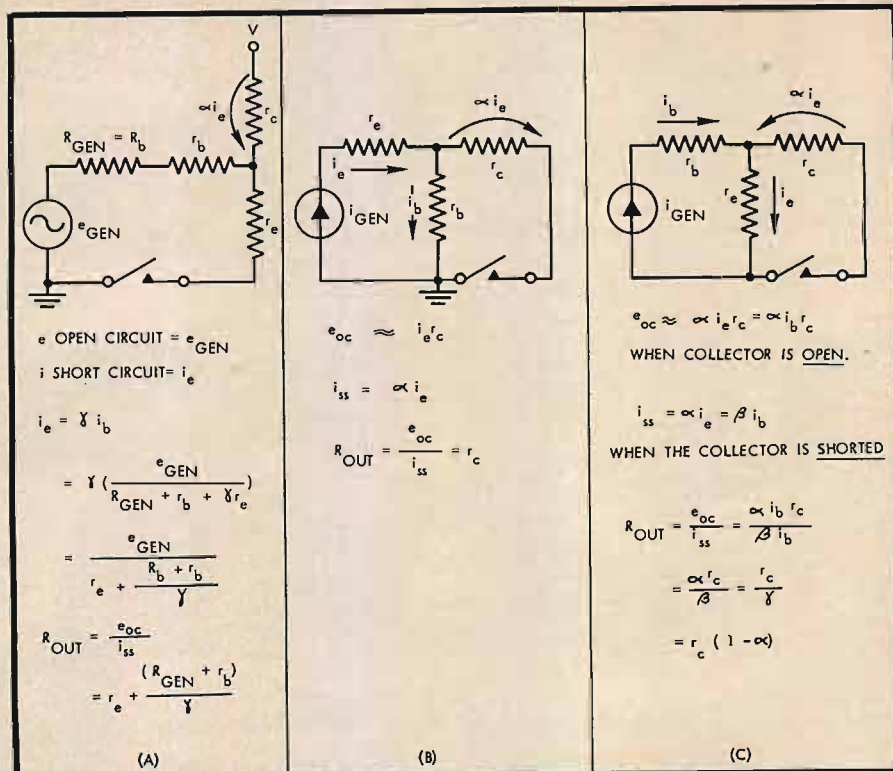

Fig. 5. Output impedances by the open-circuit short-circuit method: (A) emitter follower, (B) grounded base, (C) grounded emitter.
If we try this idea on the emitter-follower circuit, we can get a check on its validity. We already know the impedance looking into the emitter; the output impedance should be the same. Consider the circuit of (A) in Fig. 5. If we open the emitter, the voltage at the base is e_{gen} . If we short the emitter, the current is $i_e = \gamma i_b$. Further, $i_b = e_{gen}$ divided by $(R_b + r_b + \gamma r_e)$. R_{out} must be, therefore, $\frac{R_b + r_b}{\gamma} + r_e$. This checks with our
Now we can attack the collector impedance. This is the most difficult of the lot, but the open-circuit short-circuit method provides an excellent approximation. There are two configurations: grounded base, with the signal inserted at the emitter, and grounded emitter with the signal inserted at the base. The first is the easier of the two. From the circuit of (B) in Fig. 5, the open circuit voltage is $\alpha i_e r_c$. There is also a very small voltage due to the base current in r_b , but it can be neglected. The short-circuit current is simply αi_e . Thus, the output impedance is nothing but r_e . This is usually a very high value, on the order of 1 to 10 megohms. It can be seen that the grounded-base transistor acts very much like the ideal current source described in the textbooks.
For the grounded-emitter stage, the circuit of (C) in Fig. 5 is required. The open circuit voltage is $\alpha i_e r_c$ as before. But